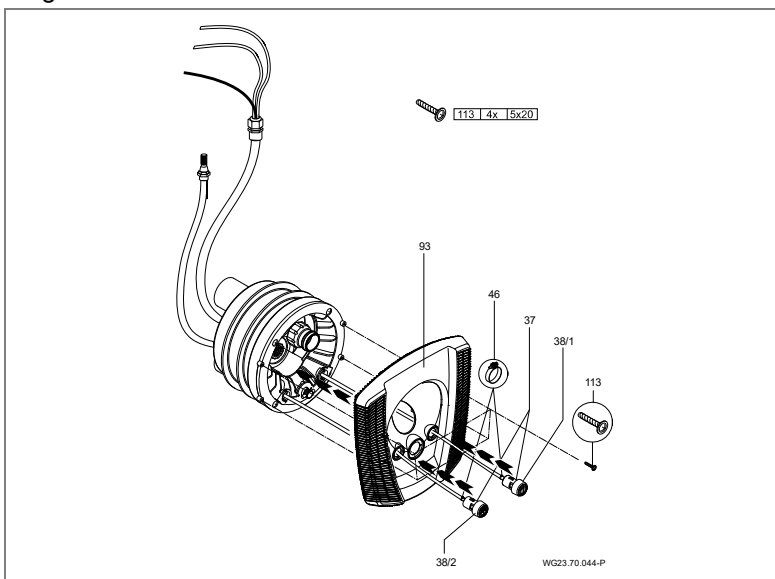

Fig. 17
6. Lead the pneumatic hoses through the openings in the cover (93) and fasten them to the corresponding buttons with hose clamps (46); Light ON/OFF left; Pump ON/OFF right. (Fig. 17)